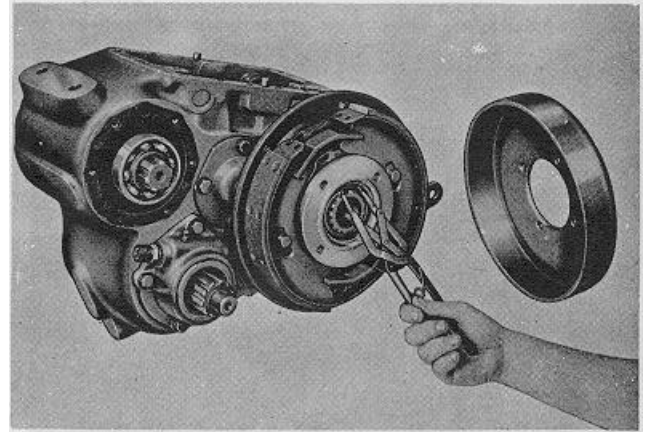

Fig. 40.
33. Slide brake hub over splines of front output gear. Install retaining ring (Fig. 40).